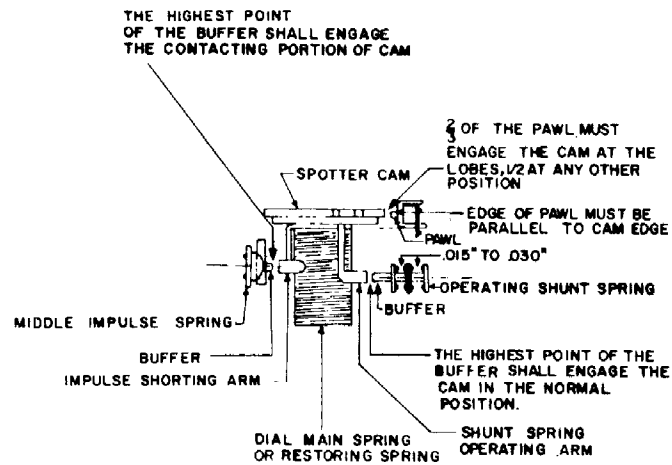

Figure 19a. Horizontal View.
- (d) Visually inspect the clearance between the impulse shorting arm and the shunt spring buffer. The minimum clearance during windup must be 0.005 inch (Figure 19a).